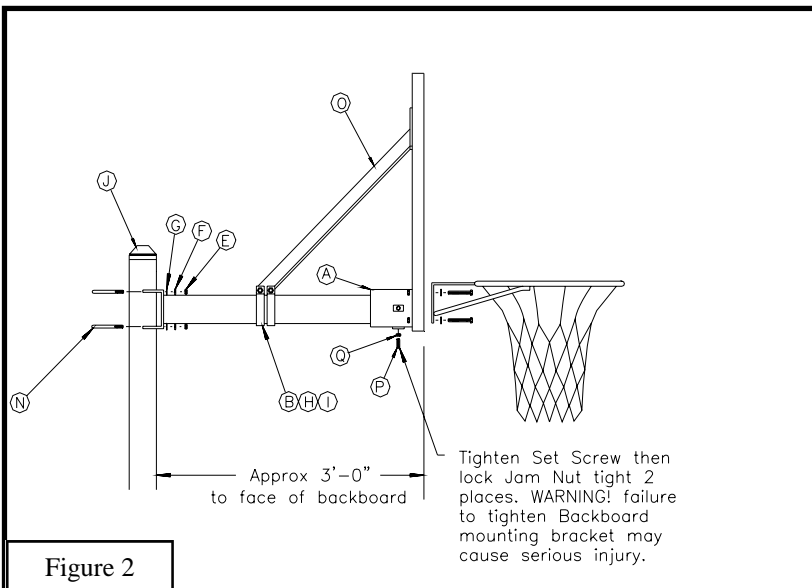
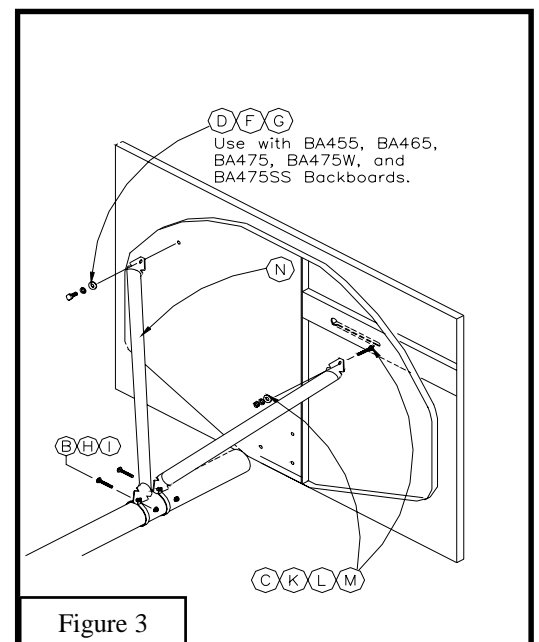

Figure 2
Figure 3
6. Assemble rim and backboard to the *Backboard Mounting Bracket* (A) using the hardware provided with the rim. Slide the 3-1/2" *Band Clamps* (B) on to the Extension Arm and attach the *Backboard Mounting Bracket* (A) assembly containing the backboard and rim to the end of the Extension Arm with 1/2" *Square Head Set Screws* (P) as shown in (see **Figure 2**) making sure rim is level. Fasten *Backboard Braces* (O) to the backboard with 7/16" x 1-1/2" *Carriage Bolts* (C), 7/16" *Hex Nuts* (K), 7/16" *Flat Washers* (L), 7/16" *Lock Washers* (M), and to the 3-1/2" *Band Clamps* (B) with 5/16" x 2" *Carriage Bolts* (H), and 5/16" *Flange Nuts* (I) as shown in (**Figure 3**).